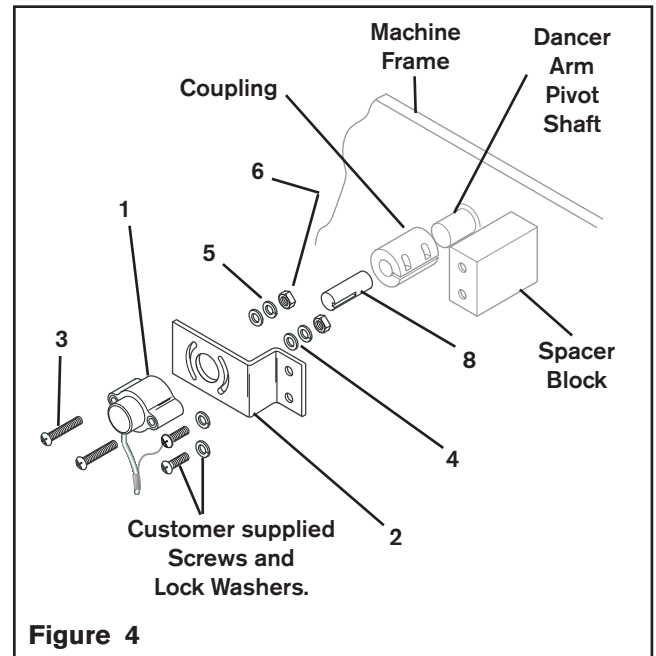

Figure 4
1. Purchase a zero backlash flexible shaft coupler that accommodates the diameter of the Stub Shaft (Item 8) on one end and the dancer arm pivot shaft on the other end (See Figures 4 and 9).
2. Slide the shaft coupler onto the dancer arm pivot shaft, inserting the shaft no further than half the thickness of the coupler clamp; then, tighten the clamp around the shaft (See Figure 4).
3. Slide the Stub Shaft (Item 8) into the shaft coupler, inserting the Stub Shaft no further than half the thickness of the coupler clamp; then, tighten the clamp around the Stub Shaft (See Figure 4).
6. Attach Dancer Position Sensor (Item 1) to the Bracket (Item 2) with the Long Pan Head Screws (Item 3, Flat Washers (Item 4), Lock Washers (Item 5), and Nuts (Item 6) (See Figure 4).
7. Align Dancer Position Sensor (Item 1) with the center of the slots in the Bracket (Item 2) and then hand tighten just enough to prevent sensor from moving during Steps 8 and 9 (See Figure 4).
8. With the dancer arm held firmly in its mid travel position, slide the Dancer Position Sensor (Item 1) over the Stub Shaft (Item 8) while carefully aligning the key with the shaft's key way (See Figure 4).
9. Slide the Dancer Position Sensor (Item 1) onto the Stub Shaft (Item 8); then, measure the distance from the bottom of the Bracket (Item 2) to the machine's side frame. Fabricate a spacer block to make up the distance between the Bracket and the machine's side frame (See Figure 4).
14. Using customer supplied 8-32 screws and lock washers, secure the Bracket (Item 2) to the customer supplied spacer block and the machine's side frame (See Figure 4).